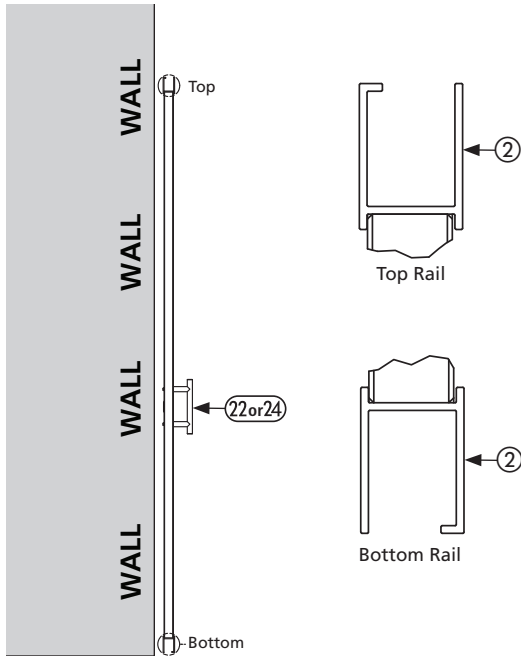

Figure 9. Rail Orientation
1. Align one of the two rails ② to bottom of door, as shown in Figure 9.
1. Align other rail ② with the top of door, shown in Figure 9.